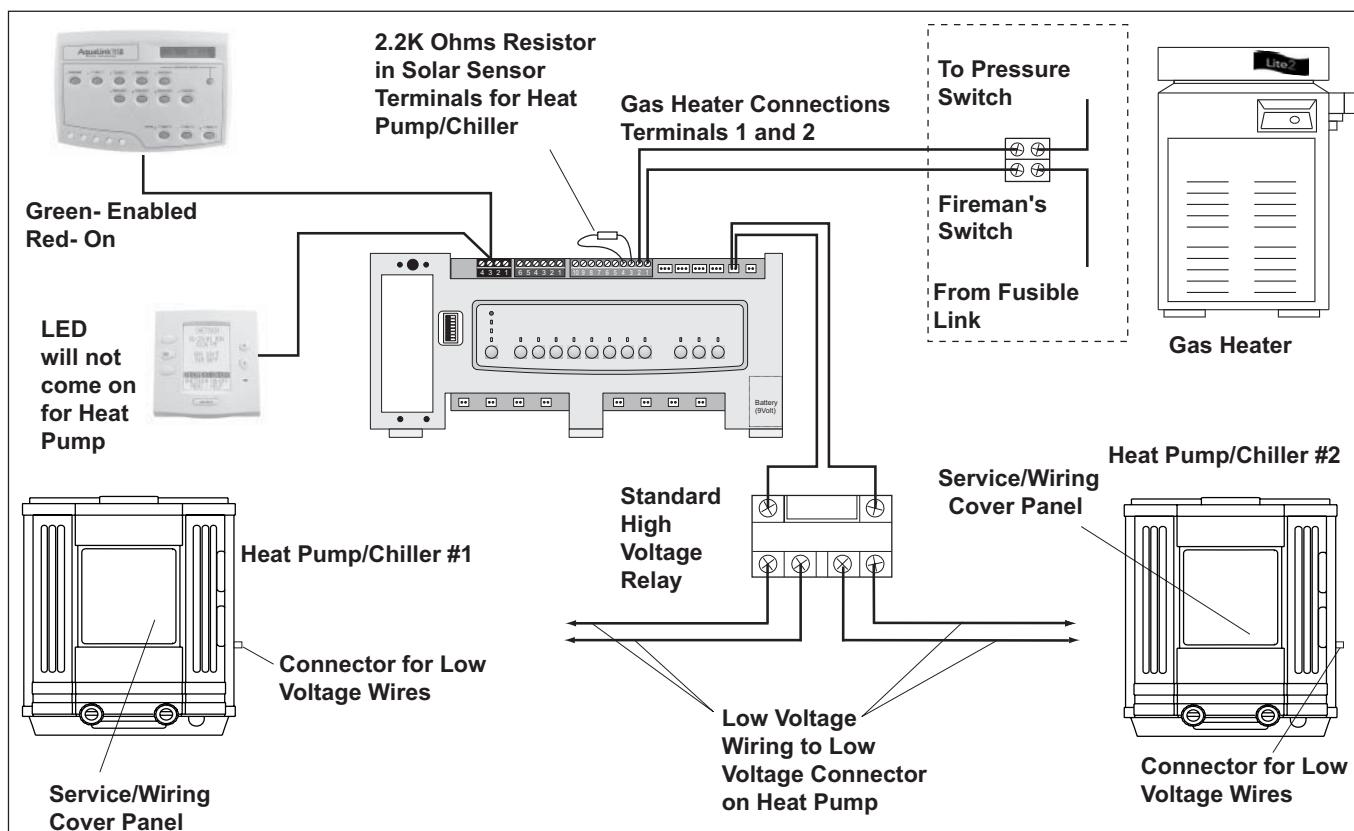

Figure 17. Aqualink RS to AE-Ti Heat Pump/Chiller Wiring
1. Install a fixed resistor, with a value of 2.2K Ohms, in the solar sensor terminals #3 and #4 of the green, 10-pin terminal bar of the AquaLink RS Power Center (see Figure 17).